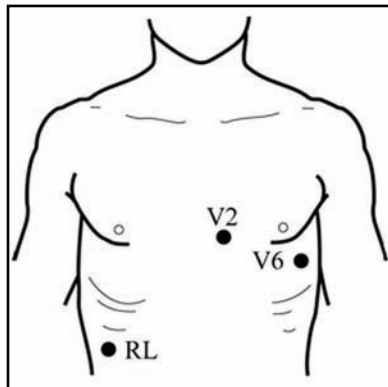

Figure 9: ECG Connections
- For *Tango+* monitors with the Internal ECG option, prepare and connect the 3 ECG electrode sites, RL, V2, and V6 to the patient (Figure 9).